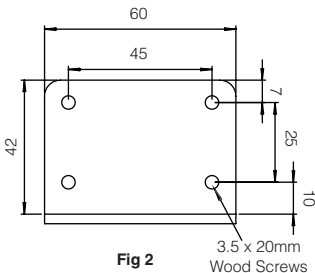

Fig 2
5. Attach the angle bracket to the underside of the desk using suitable fixings (Fig 2.)